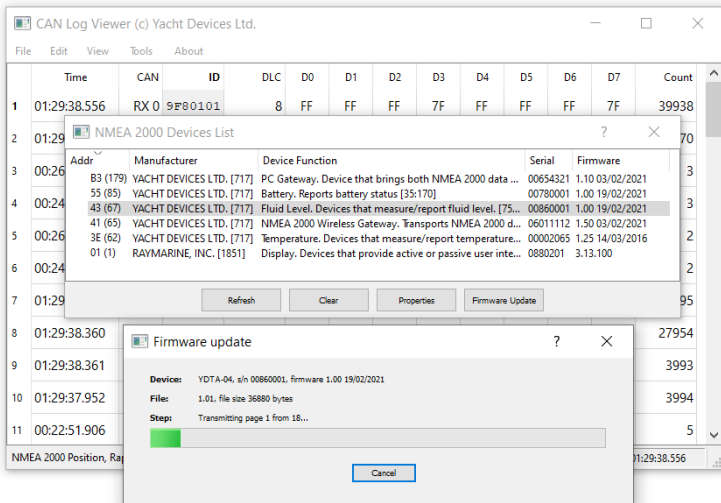

Figure 7. Firmware update with CAN Log Viewer
2. Click the «Refresh» button (see Figure 7 on the next page) in the opened window and wait for the Device to appear in the list.